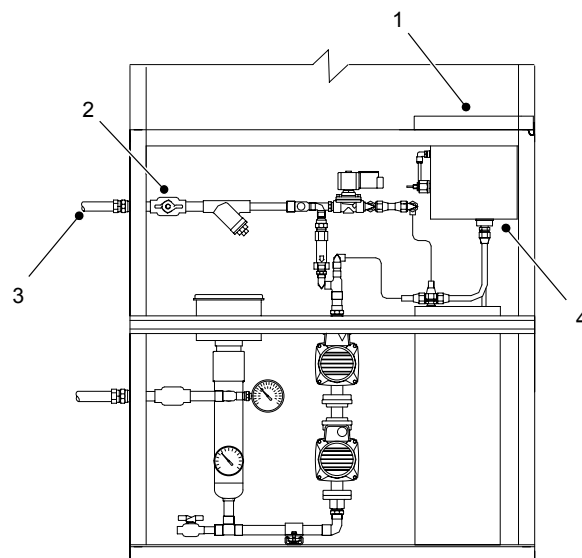

Figure 7 Filling the Water Reservoir
7. See Figure 7. If necessary, purge the air and prime the pumps:
- b. Close the From Process return line valve (2). Disconnect the hose (3) and hold it in the reservoir (4).
- d. Connect the hose (3). Open the From Process return line valve (2).
1. See Figure 7. Remove the cover (1) on the reservoir (4).
2. Mix 1.5 oz of Corrshield MD405 with a gallon of water. Pour this mixture into the reservoir (4).
3. Install the cover (1) onto the reservoir (4).